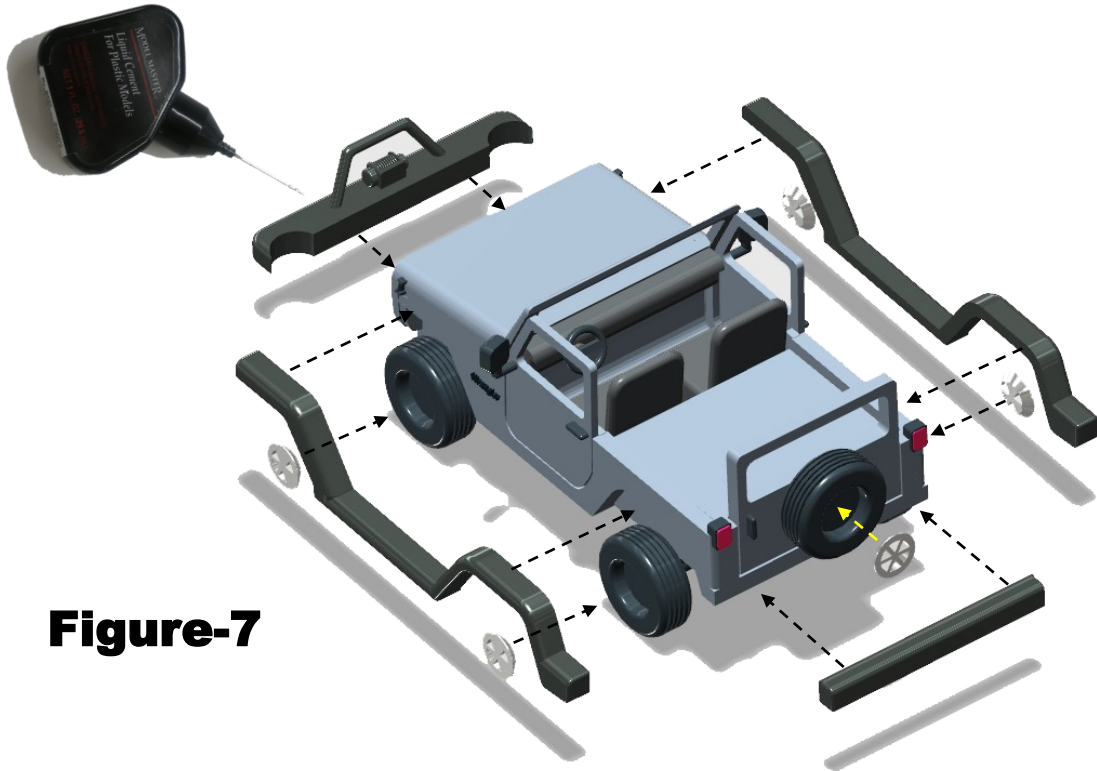

Figure-7
- Attach fenders and bumpers with model glue as shown in Figure-7.